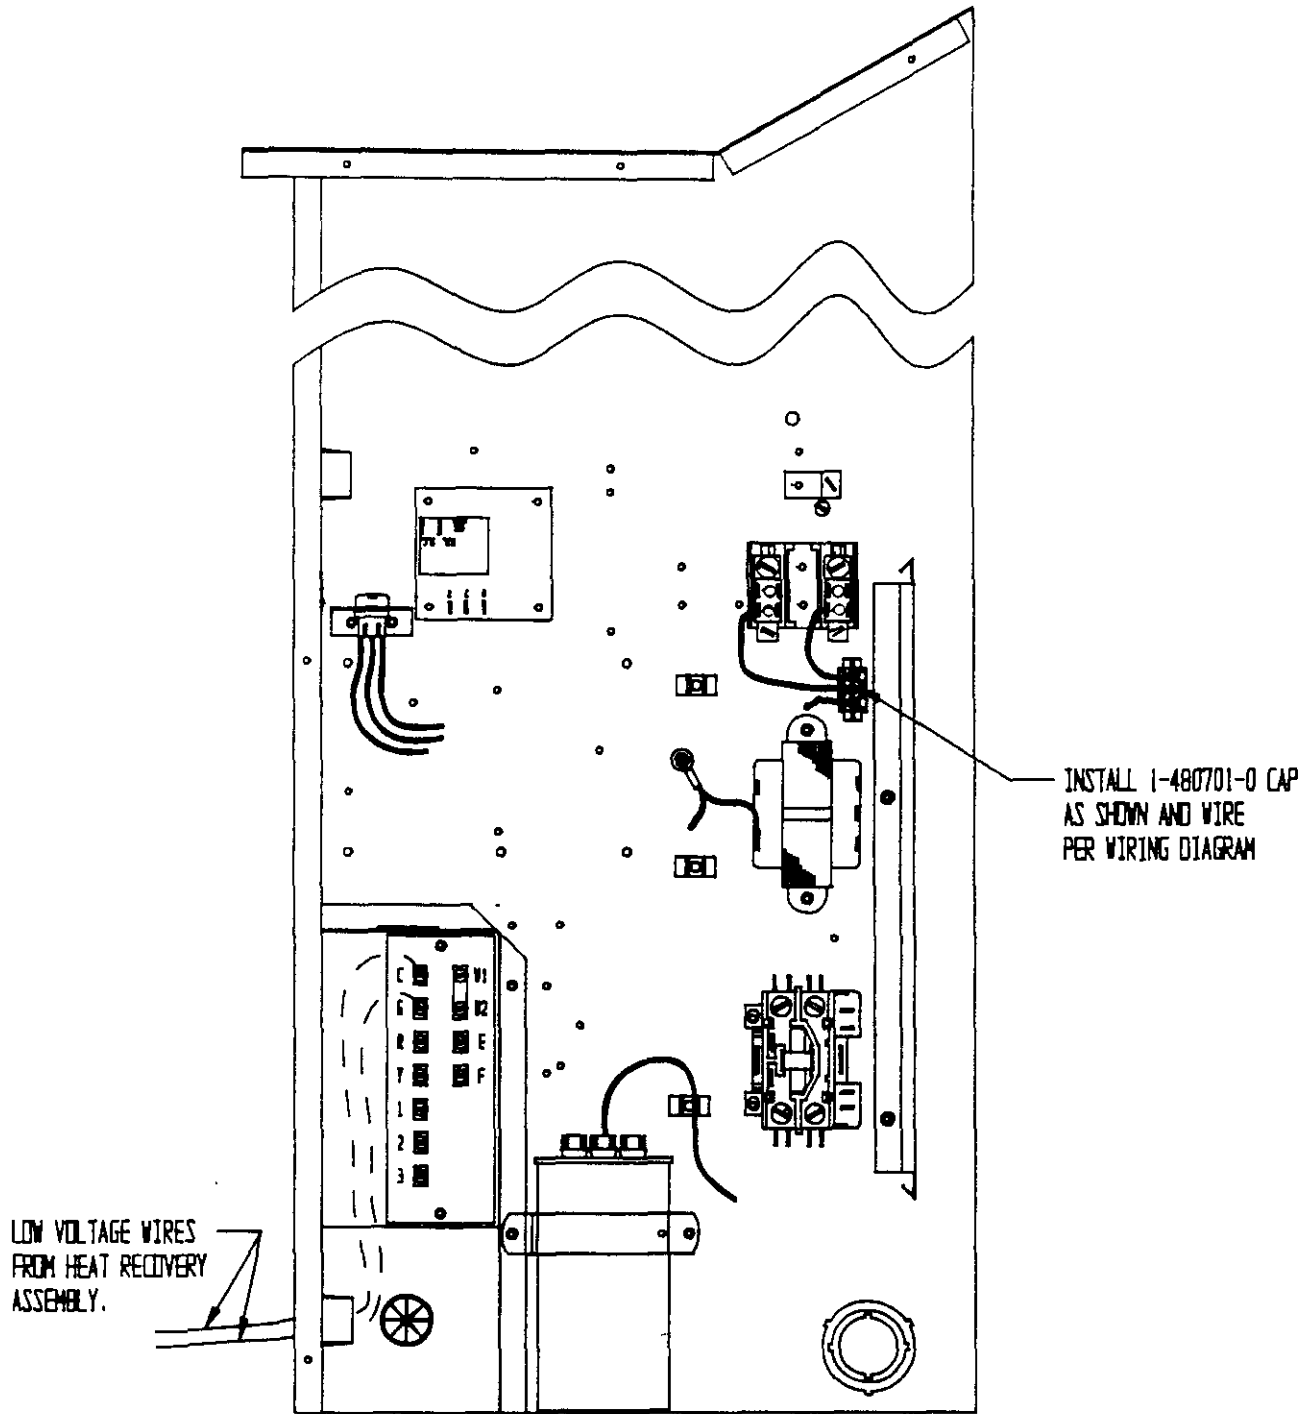

FIGURE 5
15. Replace the lower service access panel with the new panel provided. Attach air intake hood with screws provided. (See Figure 5) Be sure to insert the top flange of the air intake hood into and thru the slot in the service door and between the door and insulation to prevent bowing of the door.
2. Fresh air filter. The unit is equipped with a fresh air filter and mist eliminator located in the fresh air hood. (See Figure 5) This can be removed by removing the filter access screw from the side of the fresh air hood and removing the filter from the bottom of the assembly. This filter is constructed of an aluminum frame and mesh and can be cleaned by washing periodically. The frequency is determined by the amount of dust, pollen and other outdoor airborne particles in the area. A periodic visual inspection is recommended to insure it is clean and free of dust, debris, leaves, snow etc.